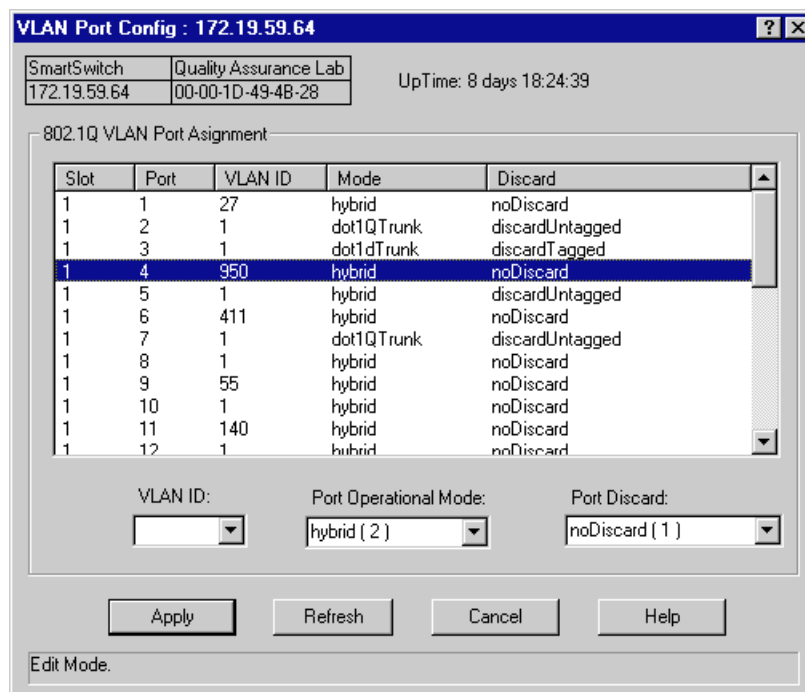

Figure 2-25. The VLAN Port Config Window
After your VLANs are defined, you may configure the ingress and egress lists for each port using the VLAN Port Config window (Figure 2-25) and the VLAN Egress Port Config window (Figure 2-26), respectively.
2. Click on **802.1Q VLAN**, and then select **802.1Q VLAN Port Config**. The VLAN Port Config window, Figure 2-25, will appear.